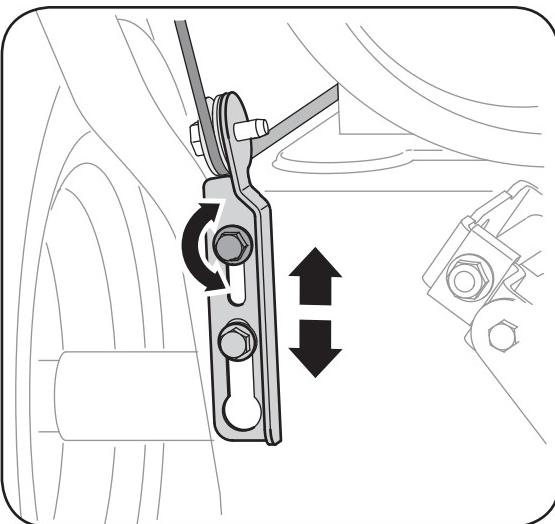

Figure 4-2
- To readjust the control cable, loosen the upper hex nut on the auger cable bracket. See Figure 4-2.